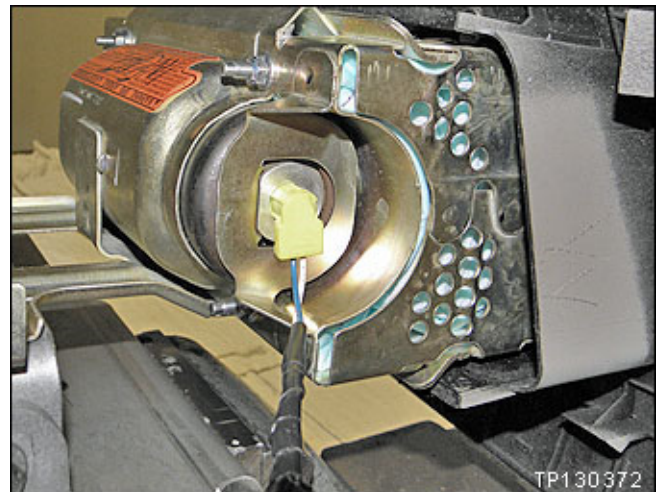

Figure P17
- Refer to Figures P17, P18, and P19.